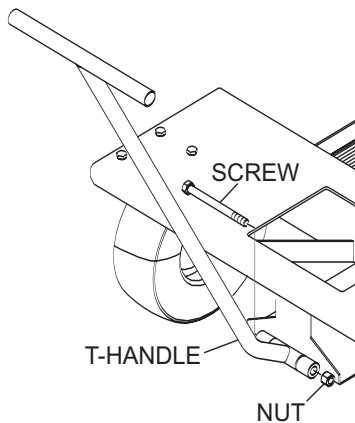

Figure 7. T-Handle Installation
2. Install the T-handle as shown in Figure 7 and tighten the bolt.